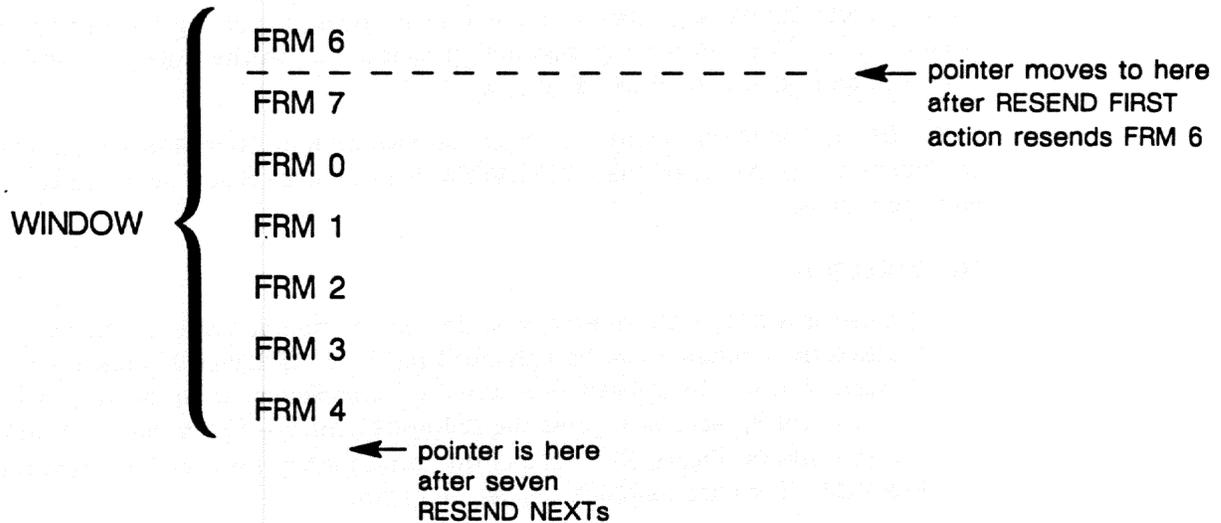

Figure 33-29 *RESEND FIRST* resets the pointer, allowing you to resend the entire window repeatedly.
1. *Resend first/next.* RESEND FIRST means that the resend–pointer is reset to the beginning of the window, the first frame in the window is resent, and the pointer is advanced to the second position in the window. The effect of a RESEND FIRST action is illustrated in Figure 33-29.